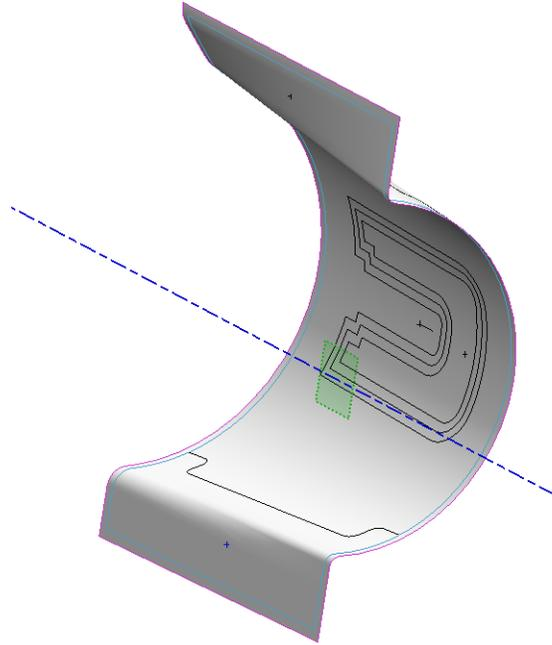

Figure 6–41
1. Open **UTILITIES_C.prt**. The model displays as shown in Figure 6–41.